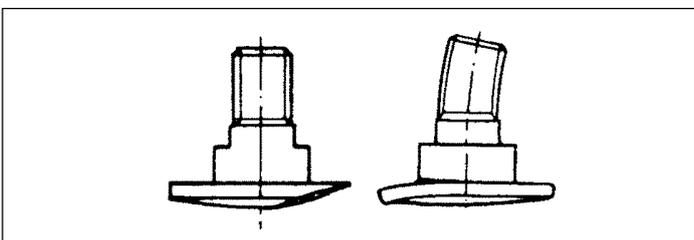

Fig. 21
- the **screw that fixes** the knives has become curved or excessively worn under the head (fig.21).